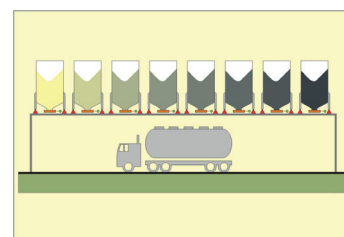

Figure 16. A bulk loading station.
- ▶ Example, see figure 16, round silos with a height of 11.5 m and \varnothing 3 m, mounted on 3 load cells near the coast.